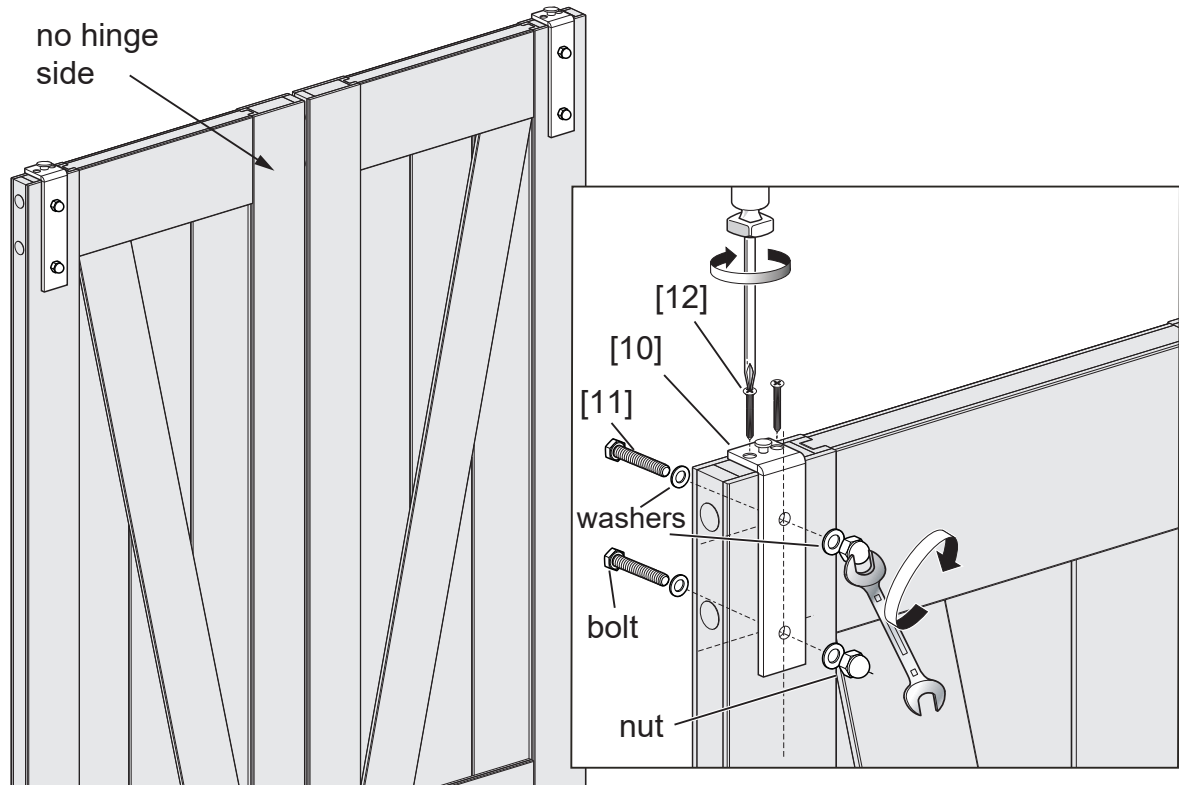

Fig 10
1. Install **Brackets [10]** from the counter side where the **Hinges [16]** are installed and secure it with **Bolt assembly [11]** using 16mm & 17mm wrenches as figure shows. (Fig 10)